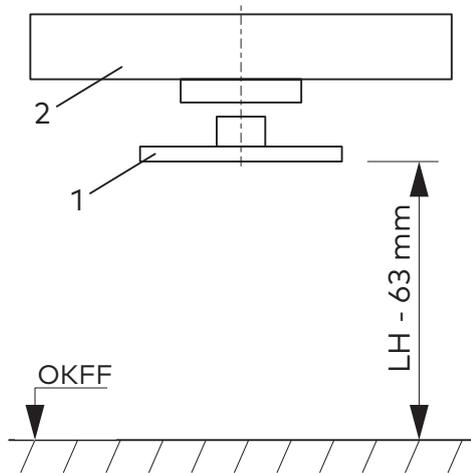

Fig. 84 Distance to the floor
5. Align upper cross fitting (Fig. 84/1) at the distance of the clear height (LH) - 63 mm to the floor as shown in Fig. 84.
6. Position the upper cross fitting (Fig. 84/1) under the operator (Fig. 84/2) so that both components (Fig. 84/1 +2) are directly under one another.